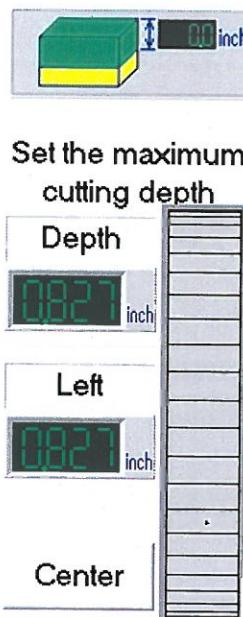

Figure 11: Image of the Maximum Cutting Depth Icon and the Maximum Cutting Depth Menu
- iii. The **DEPTH** settings are for the depth of the piece. If you are doing a piece that requires both sides to be cut, you can click **CENTER** and the mill will cut to the centerline of the object. If you want it all the way through, use the right scroll wheel on the screen to go all the way to the bottom (Figure 11).